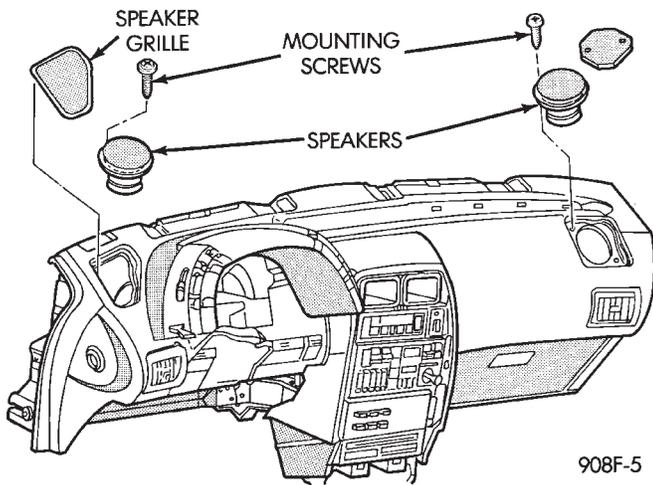

Fig. 23 Instrument Panel Speakers—AG and AJ Bodies
- (1) Remove instrument panel top cover (Fig. 23).
- (2) Remove two speaker retaining screws.
- (3) Lift speaker away from panel and disconnect wiring.
- (4) For installation reverse above procedures.